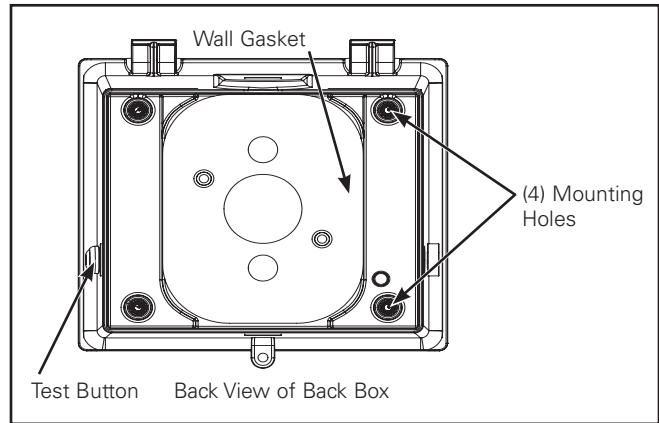

Figure 1.
2. Place inverted back box on solid surface. Using a 9/32" bit, drill out the four mounting holes. (Figure 1.)